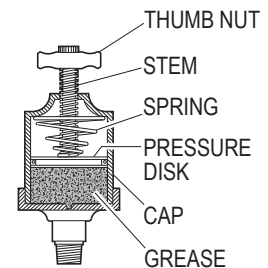

Figure 3
B. Check automatic pressure lubricator at pump. If the stem is fully extended with thumb nut all the way up then pressure lubricator contains lubricant - if not, lubricant must be replaced by the following procedure (See Figure 3):